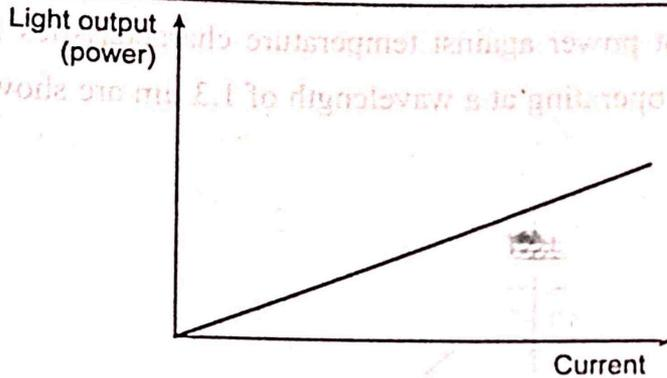

Fig 6.6 An ideal light output against current characteristic for an LED
- ♣ The ideal light output power against current characteristics for an LED is shown in Fig 6.6. It is linear corresponding to the linear part of the injection laser optical power output characteristics before lasing occurs.